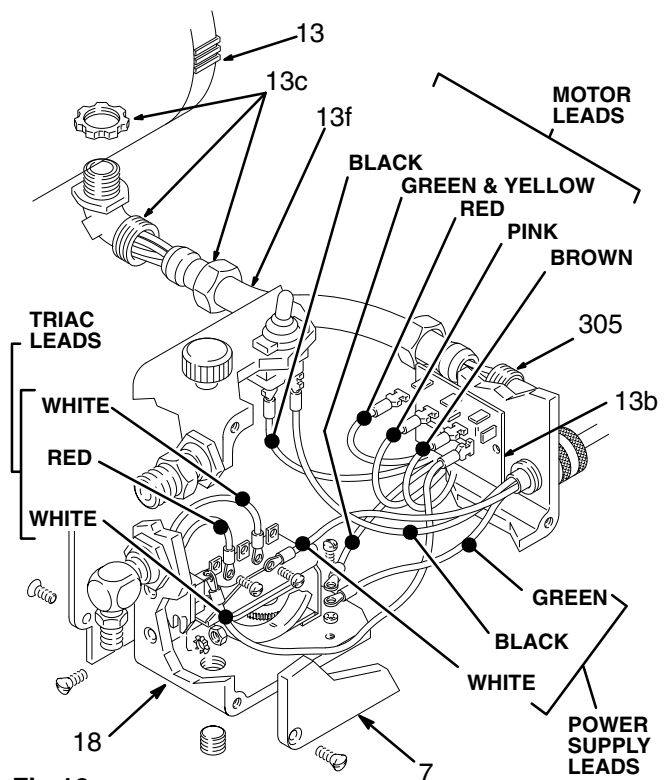

Fig 16
1. Remove the pressure control cover (7). Pull the board (13b) out carefully, just far enough to reach the wire terminals. Disconnect the leads and remove the board. See Fig 16.
2. Disconnect the spray hose, the drain hose (41) and the pump hose (26) at the pressure control. Unscrew the tee (96).
3. Disconnect the motor leads (black and yellow/green). See Fig 16.
9. Connect any other loose wires. See Fig 16.